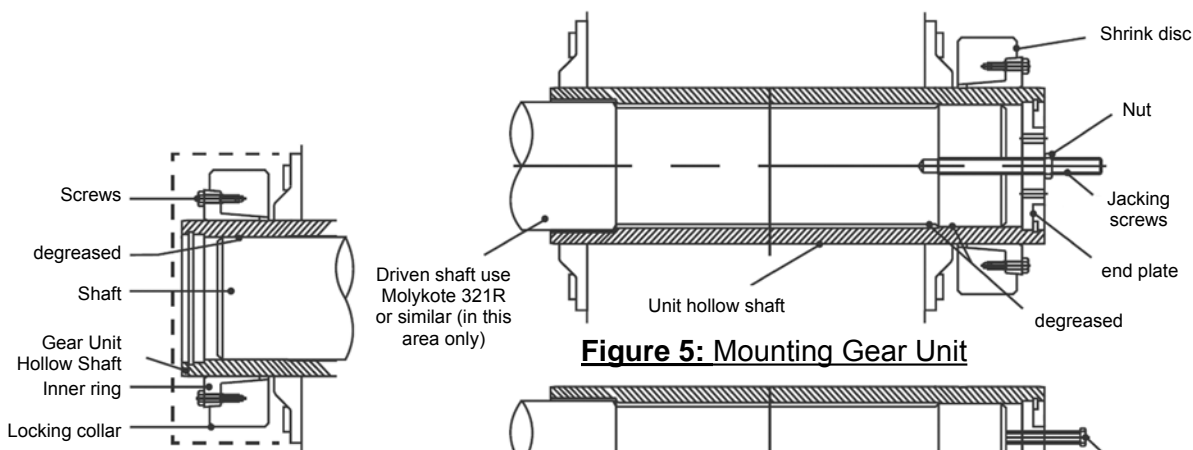

Figure 5: Mounting Gear Unit
- 5.6.2.2.4 Draw the gear unit onto the driven shaft (See Figure 5).